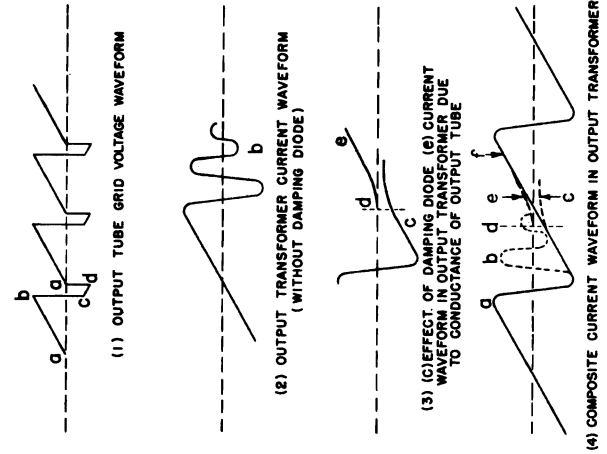

FIGURE 22. WAVEFORMS IN HORIZONTAL SCANNING SYSTEM
C-88 and R-93, the peaking resistor, will produce the same combination pulse and sawtooth voltage shown in Figure 22(1). This action was explained in the vertical circuit.
the condenser has decreased sufficiently, the grid of V-13 reaches the threshold of conductance and the tube begins to draw current. Condenser C-76, which has been charged to nearly the B plus voltage, now starts to discharge thru V-13 and R-69 (3.3 meg) and this discharge current makes the grid end of R-69 negative tending to cut off V-14, and initiates the retrace. With the sudden change of plate current in V-14 developed across the plate inductance, a positive pulse is applied to the grid of V-13 thru the feedback network driving this tube into heavy conduction. C-75 will then discharge thru V-13. The voltage developed at the plate of V-13 will be the combination sawtooth and pulse voltage shown in Figure 22(1). The pulse is formed by the peaking resistors R-65 and R-66. When V-13 goes into conduction, the voltage at the plate of V-13 drops suddenly to a value determined by the relationship of the plate resistance of V-13 to the total resistance in the discharge circuit of C-75, which consists of R-65, R-66 and the plate resistance of V-13. After this initial instant, the charge on C-75 decreases, causing the voltage decrease at the plate shown between points "c" and "d" of Figure 22(1). When the positive pulse on the grid of V-13 has decreased to the value where the negative charge on C-75 becomes operative and cuts off V-13, the voltage on the plate of V-13 and, correspondingly, on the grid of V-14, rises quickly to point "a" on the curve, the start of the trace.
The negative pulse shown between point "b" and "a" of Figure 22(1), acting on the grid of V-14, tends to cut the tube off and raises its plate resistance to the larger value required to dissipate the energy in the plate circuit inductance during the short retrace period.
because only by shock exciting such a circuit into oscillation will retrace be accomplished in the time allowed. This circuit is made resonant by the inductance of the output transformer and yoke, the distributed capacity and the tube capacity. Bearing this in mind, the operation can be explained as follows. Referring to Figure 22(1), assume that the voltage on the grid of the output tube is increasing, point "a". The grid is now being made less negative and the output tube starts to draw current which is supplied from B plus thru the damping diode. When point "b" is reached on the grid voltage waveform, the output tube is suddenly cut off because its grid has been made highly negative (point "c" on the grid voltage waveform). With the tube cut off, the resonant plate load is undamped and the circuit is shocked into oscillation. The reversal of current through the output inductance produces a positive voltage pulse which makes the cathode of the damping diode (V-18) positive, with respect to its plate; therefore, it cannot conduct. C-92 (100) is placed across the diode to provide a low impedance for the oscillatory current. If the damping diode V-18 were not present, this oscillation would continue and current would flow in the output transformer as shown in Figure 22(2). In order to insure a linear trace, however, this oscillation must be stopped and the damping diode serves this purpose. When the current nears its maximum negative value, the polarity and amplitude of the voltage pulse on the damping diode is such that its plate becomes positive, with respect to its cathode, so that the tube conducts heavily and loads the circuit sufficiently to prevent continuation of the oscillation. The current then follows the decay curve shown at "c" in Figure 22(3). At the time "d" in Figure 22(3) the voltage at the grid of the output tube has become less than cut off [point "a" in Figure 22(1)], the tube again demands current. The rising current in the tube results in superimposing the waveform "e" of Figure 22(3) on the current flow already in the output transformer due to the decaying current which resulted from the damped oscillation. Combination of these two currents results in the linear trace current indicated at "f" in Figure 22(4), which is a composite waveform of the entire action. During the peak conduction of the damping diode, C-93 (.1) charges and its polarity is such that when the output tube calls for current the charge on the condenser will be in series with the B plus supply so that the voltage at the output tube plate is raised from the 250 volt B plus supply to about 475 volts by this so-
called "bootstrap" voltage. When the grid voltage waveform of the output tube again reaches point "b" of Figure 22(1), the tube is cut off and another cycle starts. In order to properly match the yoke inductance to the required output inductance for the tube, the yoke is connected to a tap on the winding which effectively makes an auto-transformer of this section. The positive pulse of voltage at this tap is coupled to the yoke thru C-95 (.1) and results in a sawtooth of current thru the yoke. It will be remembered that a portion of this pulse is also fed to the phase detector for the AFC action thru R-86 and R-87. The small additional winding, one terminal of which is connected to chassis while the other terminal is connected to B- thru C-94 (.03) is used to cancel the pulse of voltage which is placed on the chassis by induction from the output transformer. By connecting this winding in such a way as to place a pulse of suitable amplitude on the chassis 180 degrees out of phase with the induced voltage, cancellation of the induced voltage will take place.